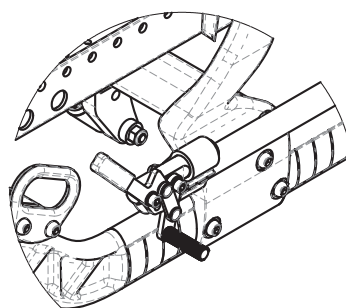

Figure 14.31: Pull to Lock Wheel Locks
2. To engage the pull to lock wheel lock (see Figure 14.31), pull the lever towards the wheel until it locks into place.